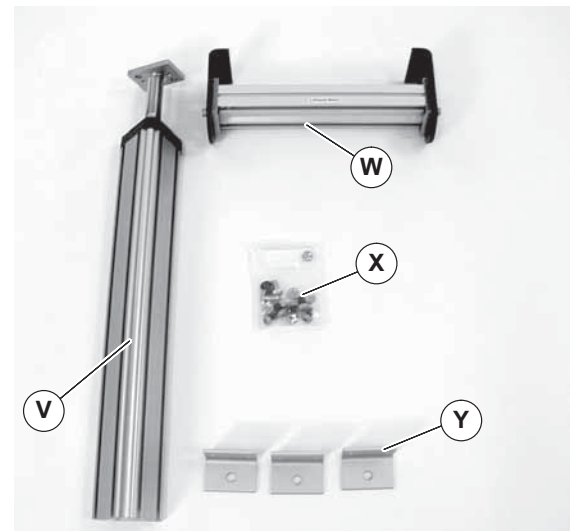

Figure 10
1. Typical components (Figure 10).
2. Open the hardware pack, single post stand (Figure 10, item X).